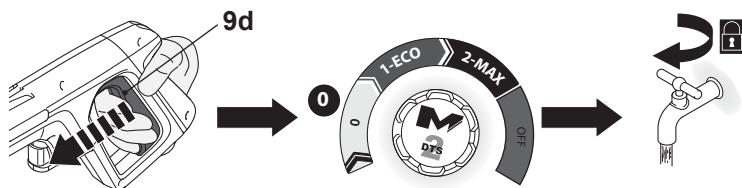

Fig. 23
1. Release the trigger (9d) (Fig. 23).